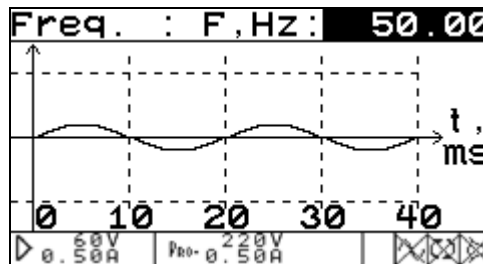

Fig. 4.8. “Signal frequency” setup window
-  — no monitoring of mains frequency is maintained at the moment. The Generator produces its output signals in accordance with the frequency specified by the “frequency” parameter (Fig. 4.8)
In the “Frequency” window (Fig. 4.8) you can set fundamental frequency (i.e. frequency of the first harmonic) for the 3-phase system of voltage/current waveforms. This parameter **will be applied only if the mains synchronization mode is disabled** ().